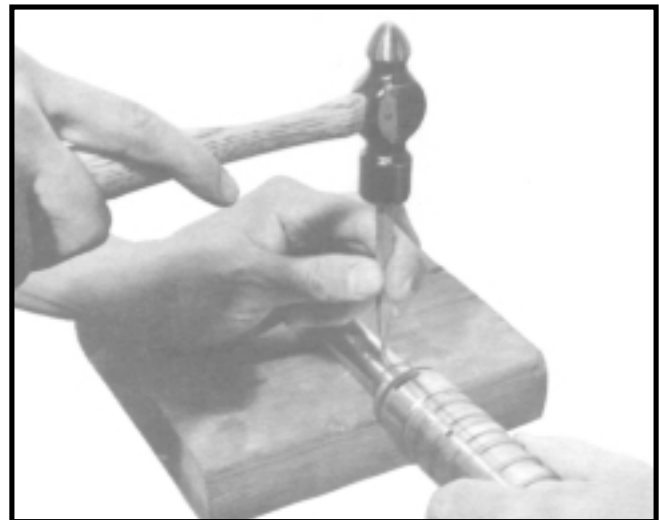
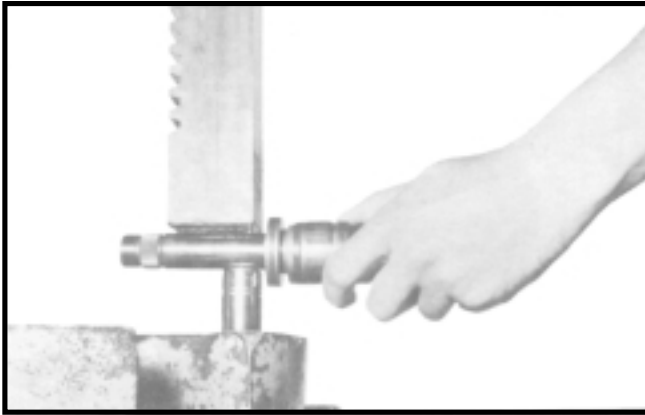

Figure HGA-12
Figure HGA-19
11. Remove the four special cap screws (6) by using a 5/16-12 point socket.
12. Grasp the input shaft (16) and with a smooth upward motion, remove the input shaft (16), upper cover (7) and spool (22) assembly from the housing (25). **Note: Avoid applying side forces to the spool which would cause binding of the closely fitted assembly. Never use excessive force to remove the spool from the housing.**
13. Remove and discard seal (8).
14. Remove the upper cover (7) with shaft seal package (Items 2 thru 5) intact. Remove spacer item (15).
15. Remove shims (9) from either upper cover (7) cavity or from face of thrust washer (11). Count and record the number of shims to aid in reassembly of unit.
16. Remove seal (2), retaining ring (3), using proper snap ring pliers. Discard seal (2). Remove and discard backup washer (4). Remove and discard seal (5).
17. Remove the retaining ring (10), thrust washer (11), thrust bearing (12), thrust washer (13) and spring washer (14) from input shaft (16). **Note: Retaining ring is twisted design. Do not straighten ring.**
18. Remove the needle roller (17) by using a pin punch of .125-inch max. diameter for a minimum of .625 length. The input shaft (16) should be placed on a block of wood (to avoid shaft damage) and the needle roller (21) removed by impact, using light hammer blows. (See Figure HGA-12).
11. Install spacer (19) over torsion bar and pin assembly (20) and insert the assembly into the spool (22) end.
12. Align the cross-hole in the torsion bar (20) with the cross-hole in the input shaft (16) and insert a .120 diameter pin punch to maintain alignment.
13. Insert the needle roller (17) into cross-hole in input shaft (16); and while retracting the pin punch, engage the pin in the torsion bar (20) cross-hole.
14. Initiate press of needle roller (17) into torsion bar (20) with a few light impacts. Press needle roller flush with outside diameter of input shaft (16) using a 1/2" drive socket of 11/16 size for supporting the input shaft. (See Figure HGA-19). With a few light impacts on a .120 diameter pin punch, drive needle roller (17) approximately 1/32 below the input shaft (16) O.D. (See Figure HGA-12).